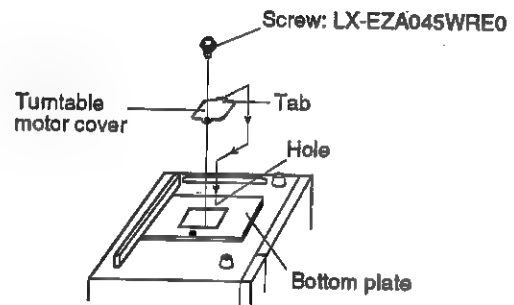

Figure C-3(b). Turntable Motor Cover Re-Install
8. Re-install the turntable motor cover to the bottom plate L with the screw which are removed at the above step 2 as shown in Figure C-3(b).